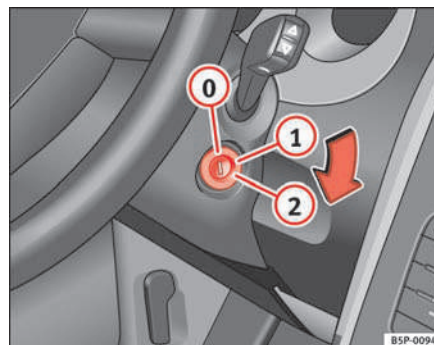

Fig. 96 Ignition key positions
In the position ⇒ fig. 96 the ignition and the engine are OFF and the steering may be locked.
- Turn the ignition key to position ⇒ page 129, fig. 96 ①. The indication lamp  will light for engine pre-heating.
- When the warning lamp goes out, turn the key to position ② to start the engine. Do not press the accelerator.
- Turn the ignition key to position ⇒ page 129, fig. 96 ①.